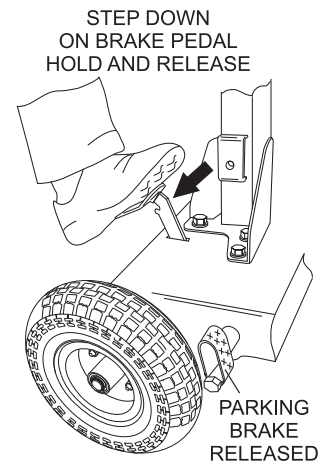

Figure 21. Parking Brake (Release Position)
8. Press down on the top of the brake pedal (Figure 21) and hold, then release. This action will dis-engage the brake mechanism and allow the GloBug to be moved.